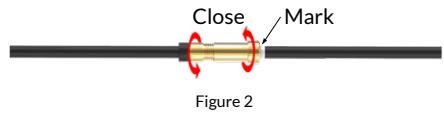

Figure 2
- Retract the liner back slightly and position the collet by tightening it to the liner at the marked position (Figure 2).